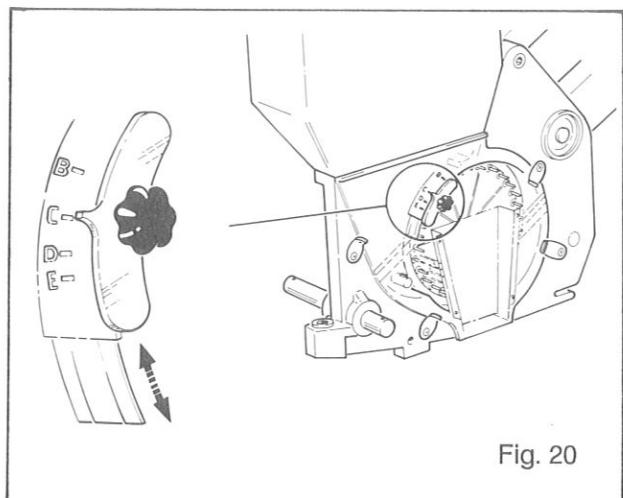

Fig. 20
The level regulator shown in Fig. 20 determines the extent to which the cups will be filled and this in turn, determines the seeding rate. A minimum seed weight of 20-25 grams is required to ensure satisfactory distribution.
*If the level is too high:* empty the seed housing and lower the level regulator half a step, as shown in Fig. 20.
*If the level is too low:* raise the level regulator half a step as shown in Fig. 20.